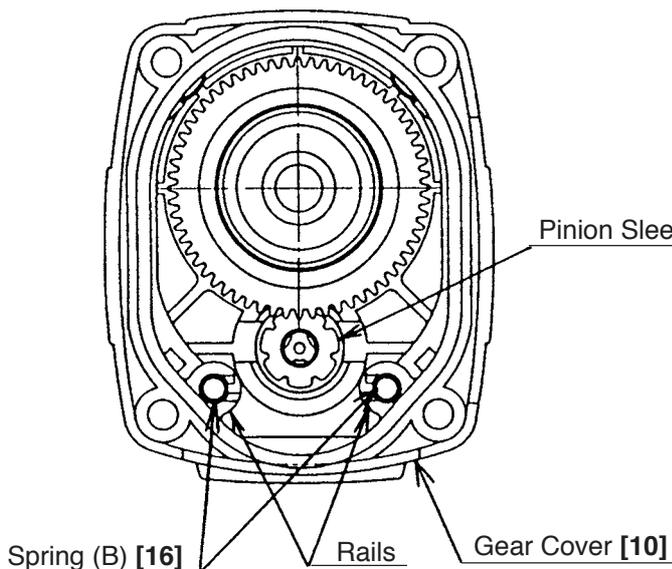

Fig. 13
- Push the Second Hammer [29] in the main body with a drill bit or screwdriver to release the Striker [37] from O-ring (C) [34].
- Remove Spring (B) [16] from the rails in the Gear Cover [10] as shown in Fig. 13.